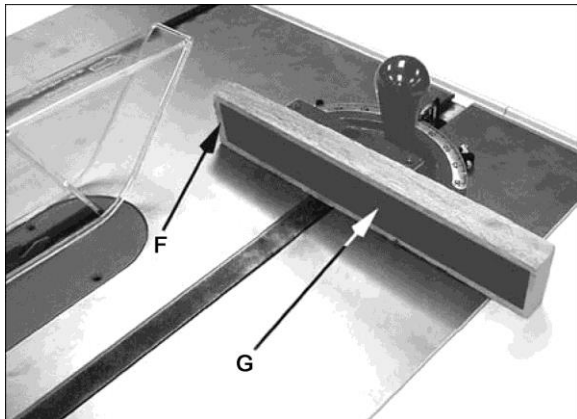

Figure 9-9
To augment the effectiveness of the miter gauge in crosscutting, some users mount an auxiliary wood extension face (F, Figure 9-9) with a glued-on strip of sandpaper (G) to help grip the workpiece.